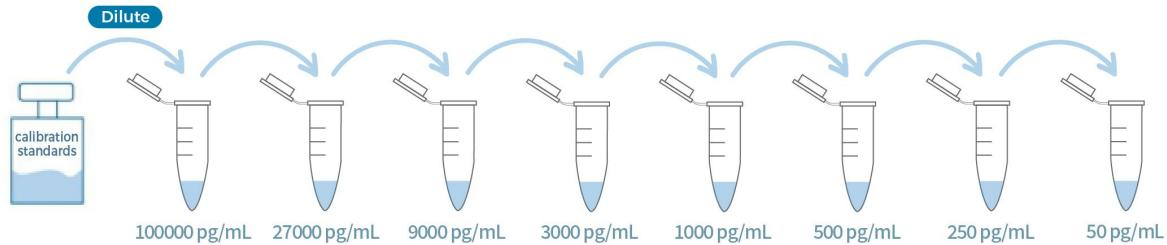

Figure 3. Graphic scheme of p24-Ag Calibration Standard Solutions
(3) Preparation of Calibration Standard Solutions
- Prepare p24-Ag Calibration Standard Solutions as indicated in Figure 3 and Table 3.